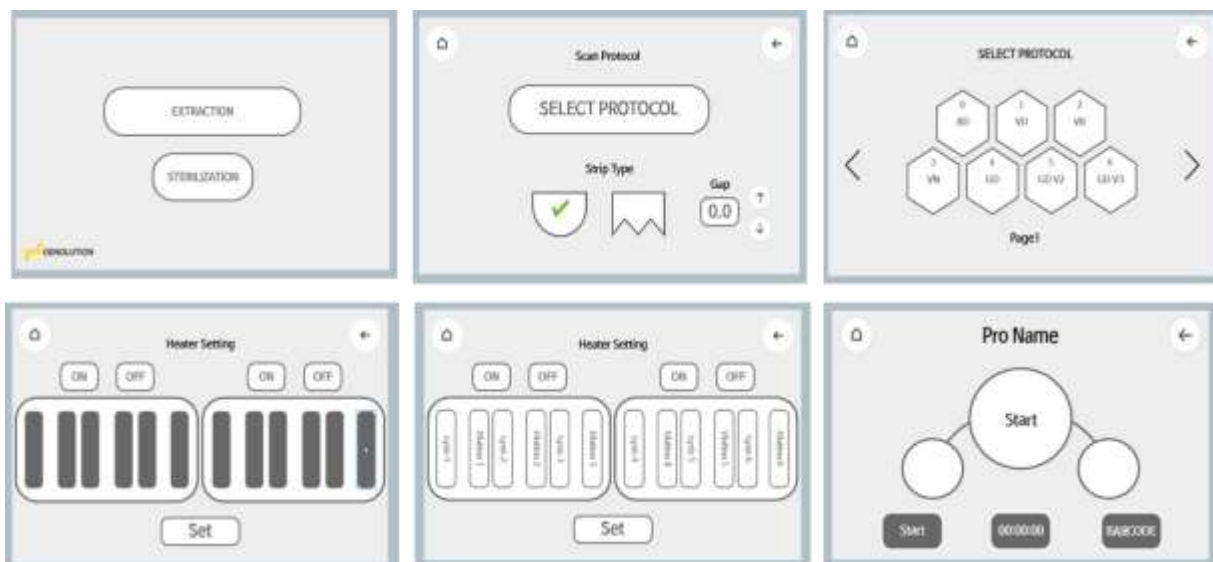

Figure 5: Protocol setting screens
9. Select Extraction → Select Round Strip Type → Select Protocol → Select BD → Touch the On / OFF button to select the heating region for the left and right plate loader → Press the Set button to complete the setting → START (Figure 5).